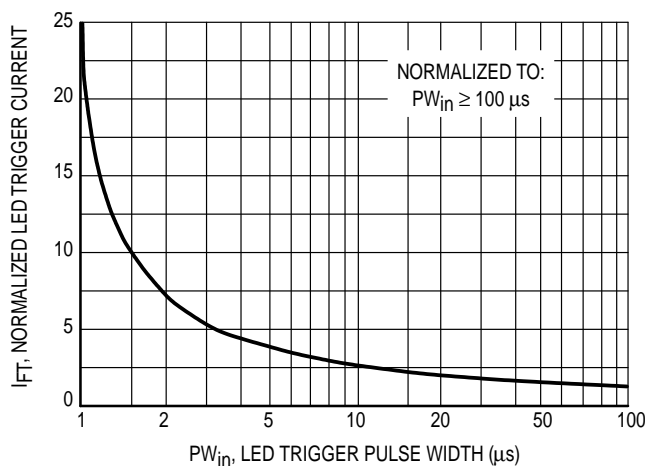

Figure 11. LED Current Required to Trigger versus LED Pulse Width
The Random Phase POWER OPTO Isolators are designed to be phase controllable. They may be triggered at any phase angle within the AC sine wave. Phase control may be accomplished by an AC line zero cross detector and a variable pulse delay generator which is synchronized to the zero cross detector. The same task can be accomplished by a microprocessor which is synchronized to the AC zero crossing. The phase controlled trigger current may be a very short pulse which saves energy delivered to the input LED. LED trigger pulse currents shorter than 100 μ s must have an increased amplitude as shown on Figure 11. This graph shows the dependency of the trigger current I_{FT} versus the pulse width t (PW). The reason for the I_{FT} dependency on the pulse width can be seen on the chart delay $t(d)$ versus the LED trigger current.